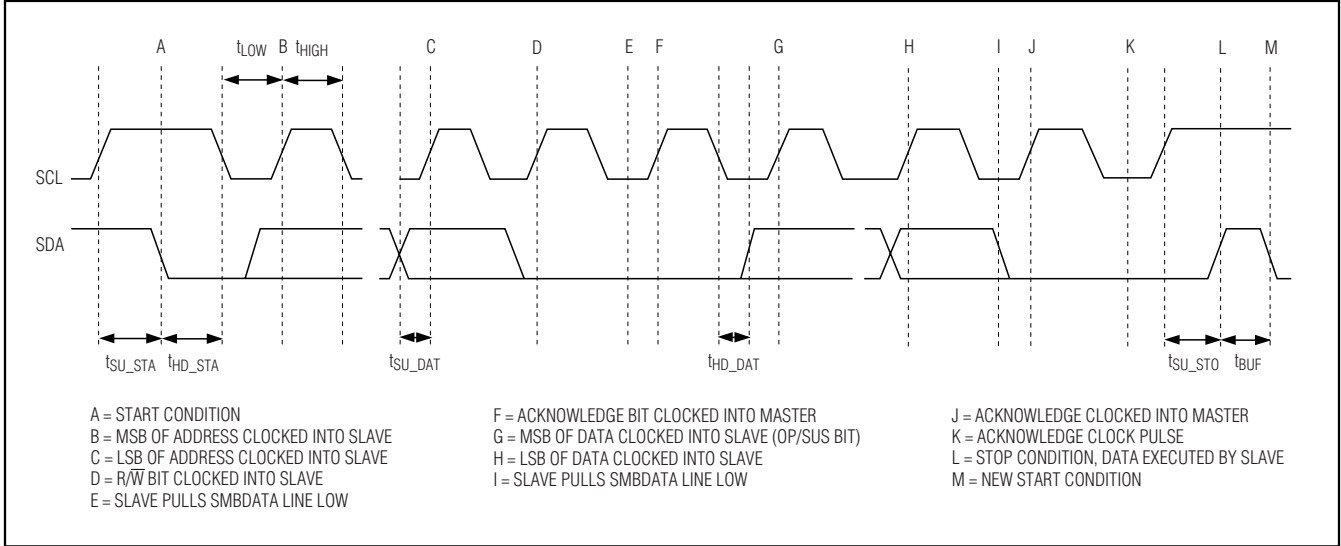

Figure 8. I2C Timing Diagram
The I²C serial interface consists of a serial-data line (SDA) and a serial-clock line (SCL). Standard I²C write-byte commands are used. Figure 8 shows a timing diagram for the I²C protocol. The MAX8821 is a slave-only device, relying upon a master to generate a clock signal. The master (typically a microprocessor) initiates data transfer on the bus and generates SCL to permit data transfer. A master device communicates to the MAX8821 by transmitting the proper 8-bit address followed by the 8-bit control byte. Each transmit sequence is framed by a START (A) condition and a STOP (L) condition. Each word transmitted over the bus